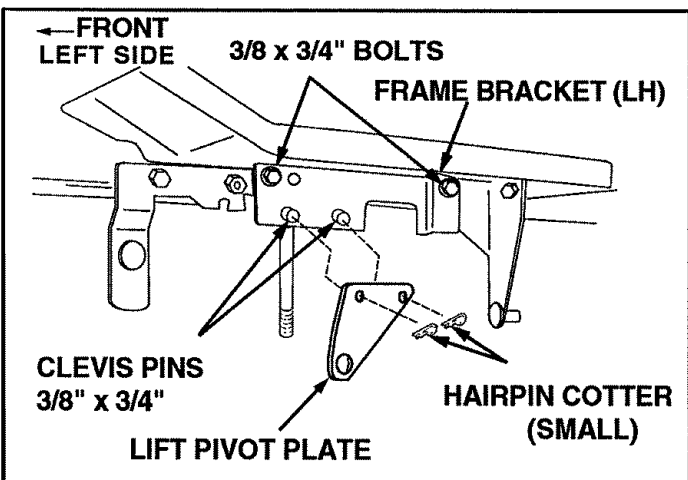

FIGURE 15
10. Assemble the frame bracket (LH) under the left hand foot rest of the tractor using two 3/8 x 3/4" hex bolts. Tighten securely being careful not to strip threads. See figure 15.
11. Assemble the lift pivot plate to the **left hand** frame bracket using two 3/8" x 3/4" clevis pins and secure with two 3/32" (small) hairpin cotters. See figure 15.